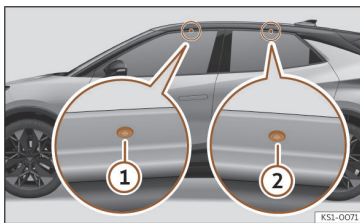

Fig. 168 Attachment points for the crossbars for the roof carrier.
The front and rear attachment points ① and ② are only visible when the doors are open >>> **Fig. 168.**